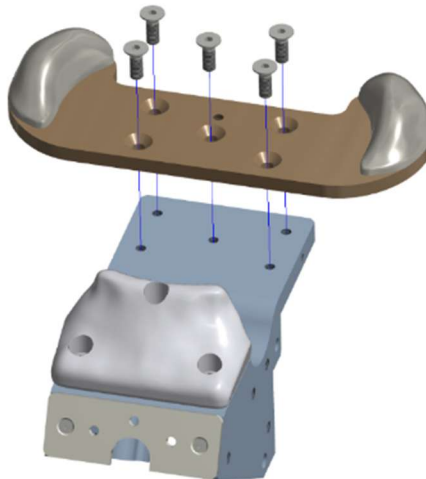

Figure 8-31. Attach the Ischium Bone Mount Plate (474-4542-A) to the Center Pelvic Bone (474-4541)
- 8.3.4 Attach the Ischium Bone Mount Plate (474-4542-A) to the Center Pelvic Bone (474-4541) with five M5 X 0.8 X 14 LG. FHCS (Figure 8-31).